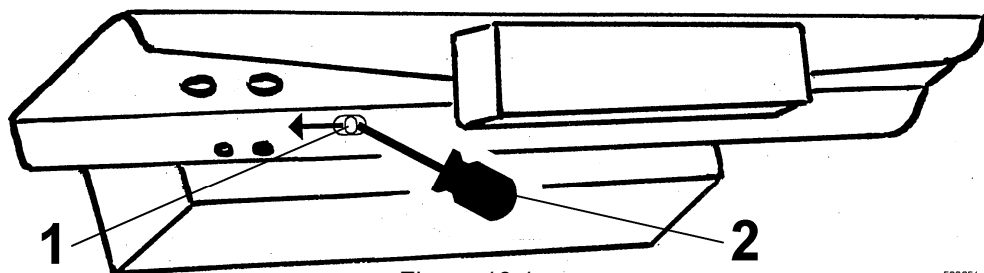

Figure 10.1.
2. After machine cooling down insert suitable device (wire, screw driver), Figure 10.1, pos.2 into the left hole (1) under washer door and remove locking pawl to the left.